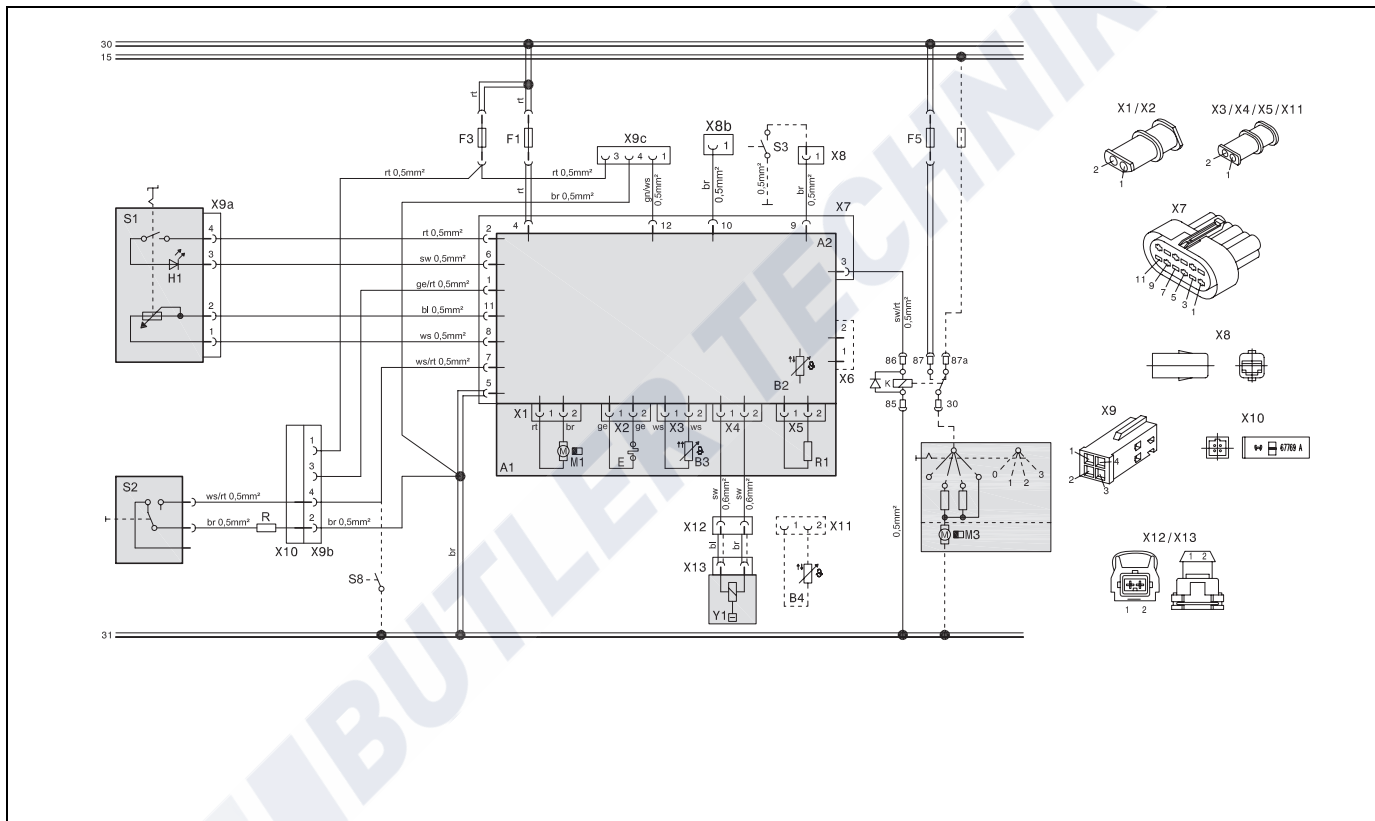
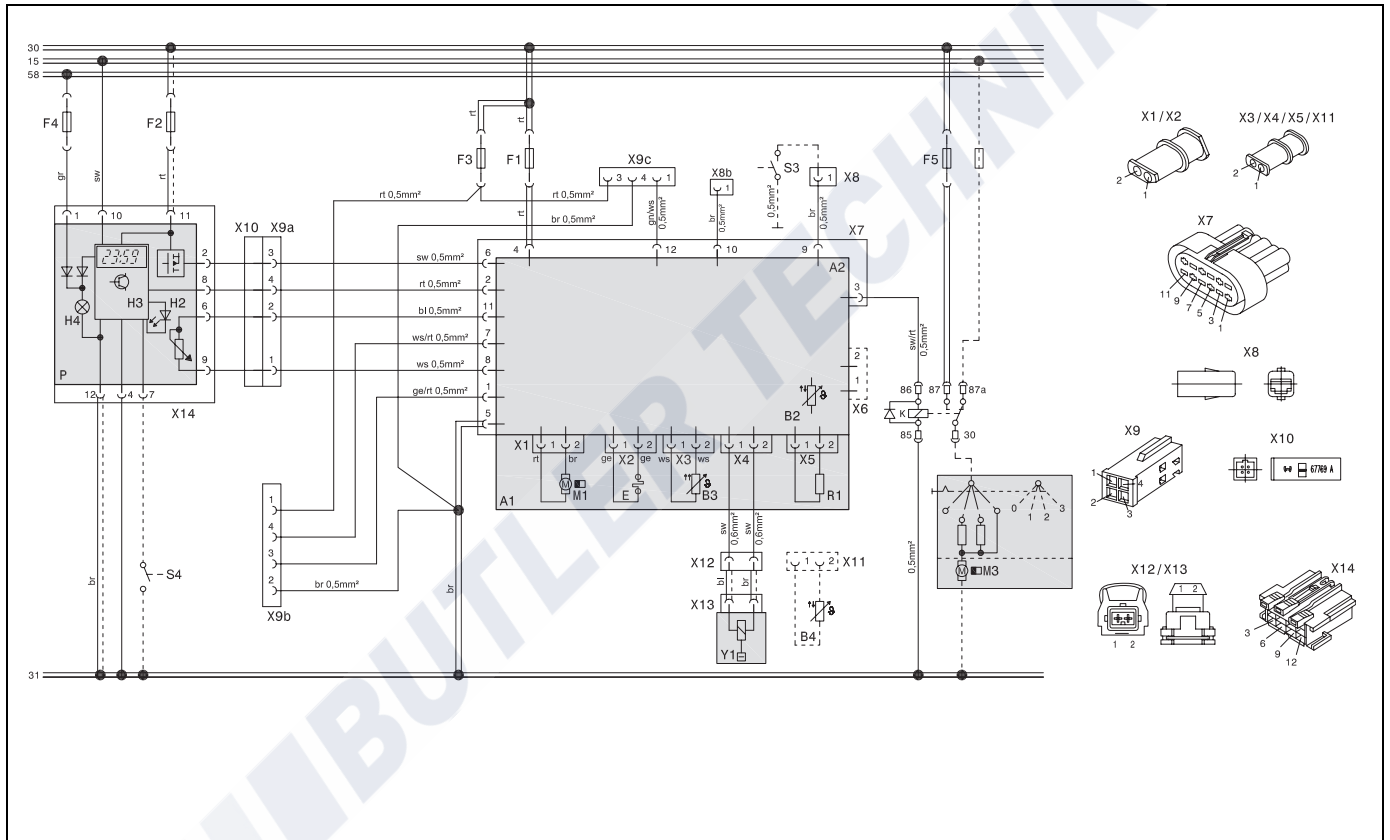

Fig. 34 System wiring diagram for the Air Top Evo 3900 and Air Top Evo 5500, 12 V/24 V with control element and vehicle fan, for legend see pages 87 and 88
Fig. 36 System wiring diagram for the Air Top Evo 3900 and Air Top Evo 5500, 12 V/24 V with combination timer and vehicle fan, for legend see pages 87 and 88
If the combination or standard timer is used, a touch-sensitive switch may be installed in the sleeping section to act as a remote control and improved convenience. The connections must be made as shown in the circuit diagrams in Figures 36 and 37.
The electrical connection is made as shown in the system circuit diagram (Figures 34 to 39).
3. Ensure that the electrical connections are in accordance with the system wiring diagram (Fig. 34, Fig. 36, Fig. 38)